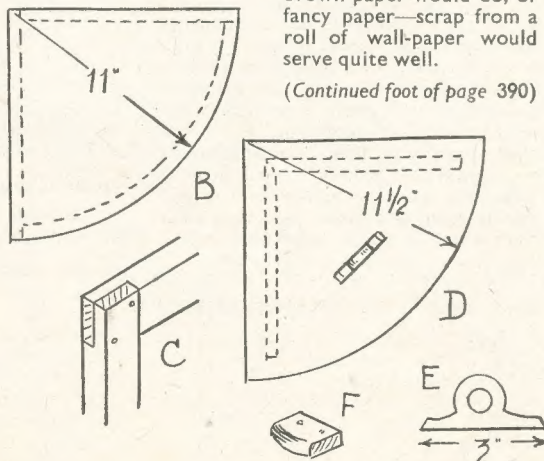

Fig. 3—The lid, feet and handle
At this stage cut the lid, shown at (D) in Fig. 3. This can be cut from plywood, or good quality hardboard might serve. Lay the lid upside down on the bench, and stand the carcase of the basket on it, also upside down. See the lid extends beyond the basket about $\frac{1}{4}$ in. each side.
Washing day is always a hard day when it comes to carrying the wet clothes in and out of doors and chasing the peg bag. The workmanlike garden washing day trolley seen in Fig. 3 is made from a drawer from an old chest of drawers. It is cleaned up, with handles added at each end and lined with some light American cloth, put on with paste.